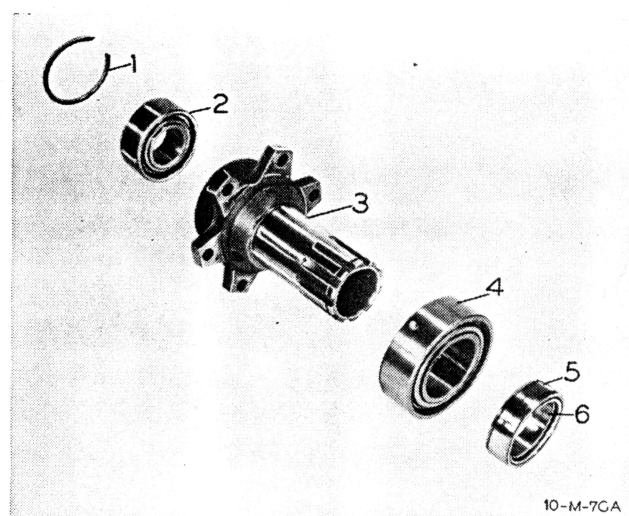

Fig. 140
4. Using gear puller, remove mainshaft outboard support bearing spacer and mainshaft outboard support bearing. Fig. 140.